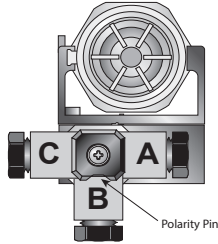

Figure 15: Polarity pin
- Determine which direction the body of the connector should face. See Figure 15.